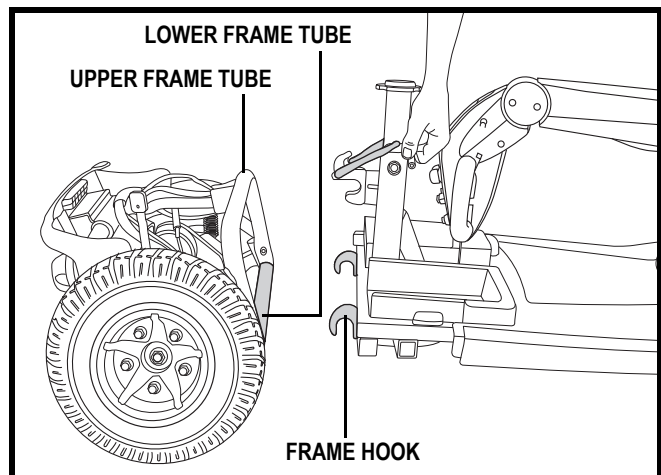

Figure 24. Frame Separation
- Lift the front section up until the frame hooks of the front section separate from the rear section. See figure 24.
NOTE: Stabilize the rear section with your free hand by holding onto the upper frame tube. See figure 24.
- Slowly separate the two sections. See figure 24.
- Position the front and rear sections of your scooter as shown in figure 24.